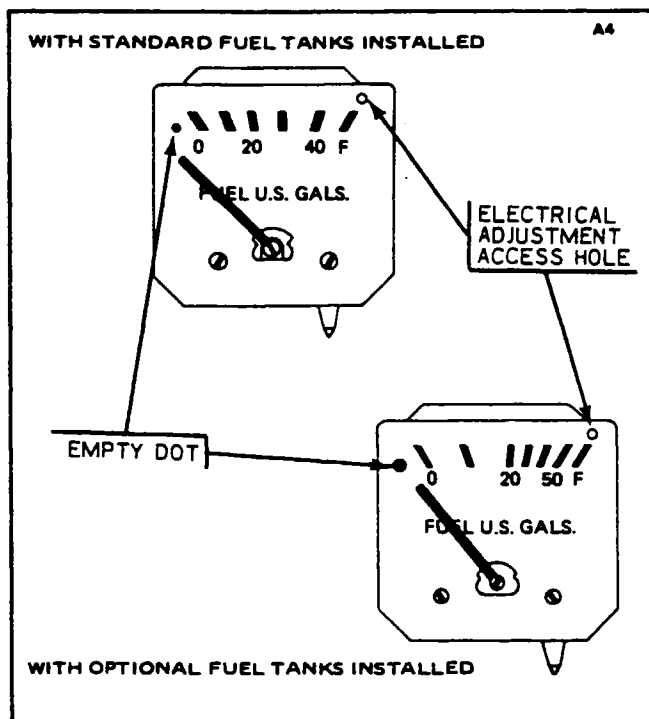

Figure 9-3. Fuel Gauges
i. With the tanks full and master switch "ON," the needle should be centered on the "F" radial mark within ± 1 needle width. If not within this tolerance, adjust the electrical adjustment (refer to Figure 9-3) adjust sufficiently to bring it within tolerance; do not center the needle.